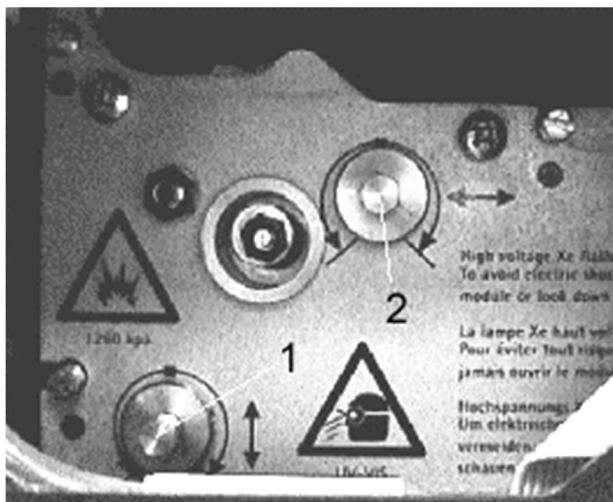
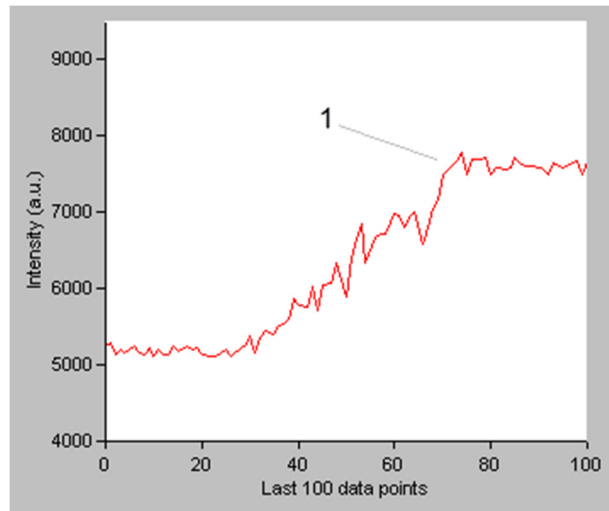

Figure 5. 1) Vertical adjustment screw 2) Horizontal adjustment screw
Figure 6. 1) Maximum signal level
- 8 Adjust the bottom left screw (vertical adjustment, labeled '1' in Figure 5) for maximum signal with the supplied 5.5 millimeter nut driver (you may need to adjust the y-axis scaling on the screen).
- 9** Adjust the top right screw (horizontal adjustment, labeled '2' in Figure 5) for maximum signal (see Figure 6) with the supplied 5.5 millimeter nut driver (you may need to adjust the y-axis scaling).